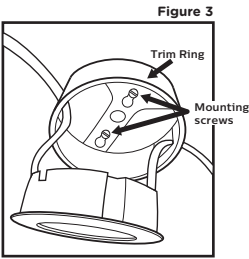

Figure 3
- Secure the puck in the trim ring by firmly pushing the puck into the trim ring while feeding the power cords through the trim ring openings until the puck snaps into place. **See Figure 3**.